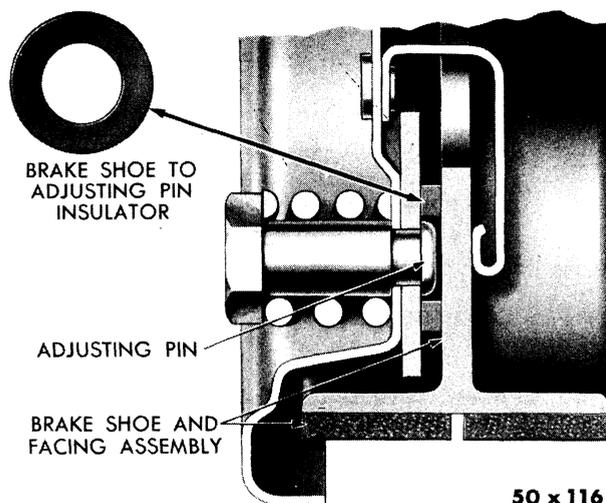

Fig. 91—Insulating Washer Installed
h. Remove drums, and insert rubber insulating washer around cam post between shoe web and adjusting cam, as shown in Figure 91. If necessary, groove the lining as described in Paragraph 50.
- (2) Hold the shoe guide spring back and insert the insulating washer around the cam pin between the web of the shoe and the cam, as shown in Figure 91.
- (3) Rotate the shoe back into position, allowing the insulating washer to support the web so that there is no contact between the cam pin and the web of the shoe.